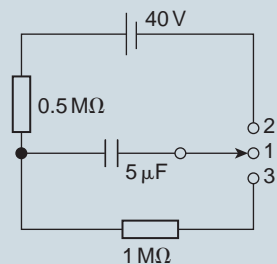
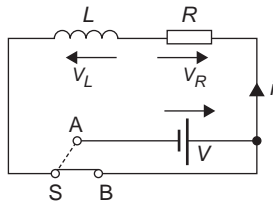

Figure 20.9
Figure 20.13
12. (a) In the circuit shown in Fig. 20.9, with the switch in position 1, the capacitor is uncharged. If the switch is moved to position 2 at time $t=0\ \text{s}$, calculate the (i) initial current through the $0.5\ \text{M}\Omega$ resistor, (ii) the voltage across the capacitor when $t=1.5\ \text{s}$ and (iii) the time taken for the voltage across the capacitor to reach $12\ \text{V}$.
When a series connected $L-R$ circuit is connected to a d.c. supply as shown with S in position A of Fig. 20.13, a current $I = V/R$ flows after a short time, creating a magnetic field ($\Phi \propto I$) associated with the inductor. When S is moved to position B, the current value decreases, causing a decrease in the strength of the magnetic field. Flux linkages occur, generating a voltage v_L , equal to $L(di/dt)$. By Lenz's law, this voltage keeps current i flowing in the circuit, its value being limited by R . Since $V = v_L + v_R$, $0 = v_L + v_R$ and $v_L = -v_R$, i.e. v_L and v_R are equal in magnitude but opposite in direction. The current decays exponentially to zero and since v_R is proportional to the current flowing, v_R decays exponentially to zero. Since $v_L = v_R$, v_L also decays exponentially to zero. The curves representing these transients are similar to those shown in Fig. 20.9.